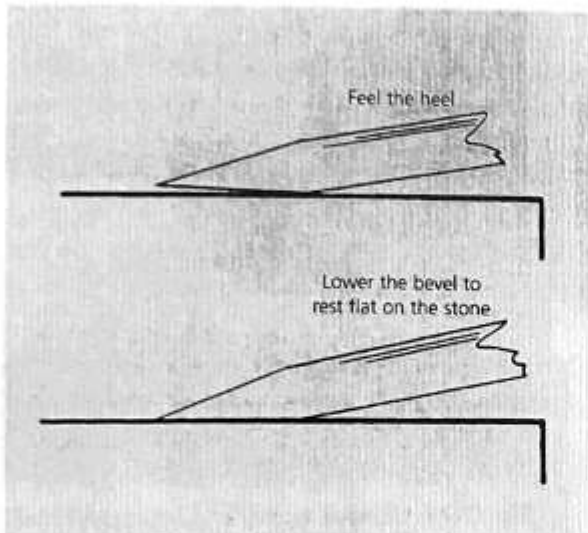

Fig 12.12 How to get a sense of the bevel resting flat on the surface of the benchstone
- ① Position the stone on the bench so that its end points away from you (i.e. end-on).
- ② If you are right-handed, hold the chisel handle in the right hand with the first two fingers of the left hand on the back of the blade, a little behind the bevel – vice versa for the left-handed.
- 3 Place the heel of the chisel on the near end of the stone. Try to get a sense of the heel resting on the surface (Fig 12.12). Keep your elbows by your sides.